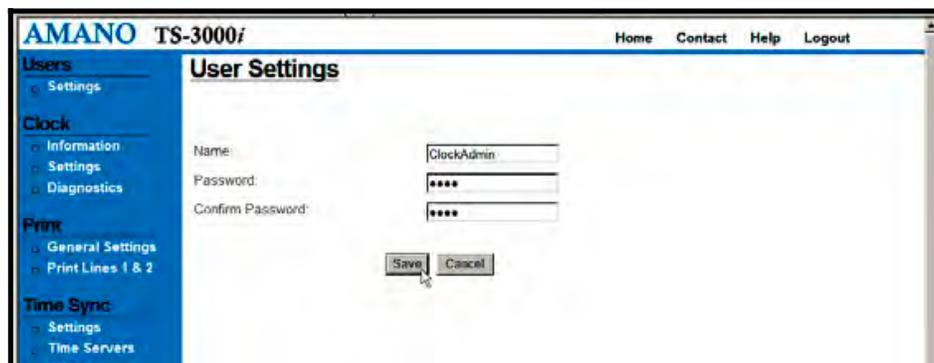

Figure 4-3: User Settings
Step 2. Click on the **Add** button to create a new user, and the **User Settings** screen will appear (see *Figure 4-3*).